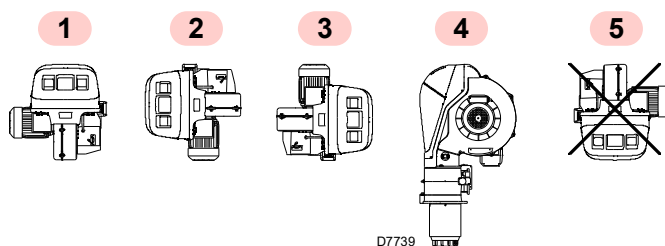

Fig. 13
- The burner is designed to operate only in positions 1, 2, 3 and 4 (Fig. 13).
- Fit the entire burner onto the boiler hole prepared previously (Fig. 13), and fasten with the screws supplied.